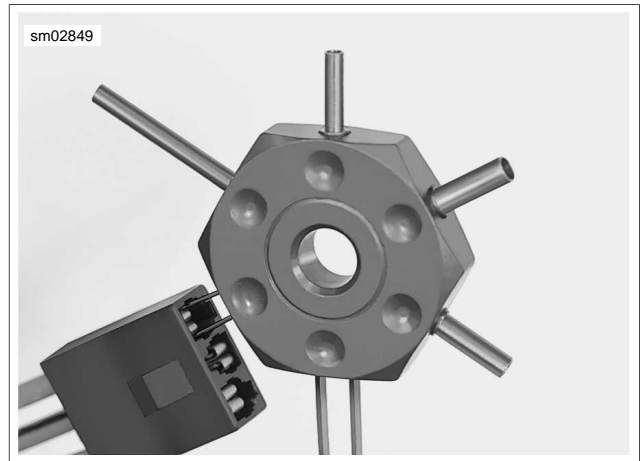
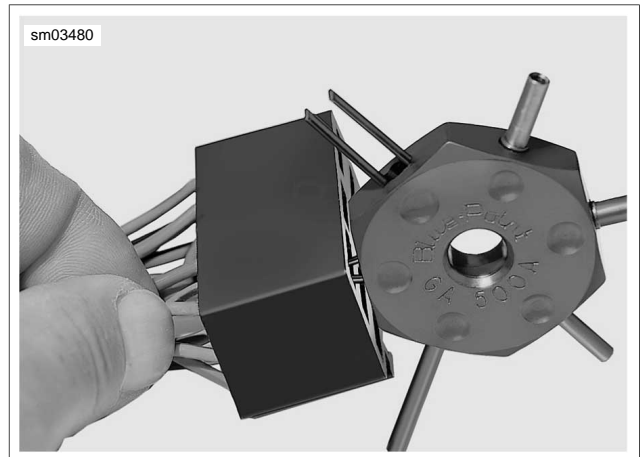

Figure A-10. Removing Autofuse Terminal from Ignition Switch
Figure A-11. Removing Autofuse Terminal from Fuse Block
2. See Figure A-10 or Figure A-11. Insert smallest pair of pins into chamber on mating end of socket housing to depress tangs on each side of terminal simultaneously.